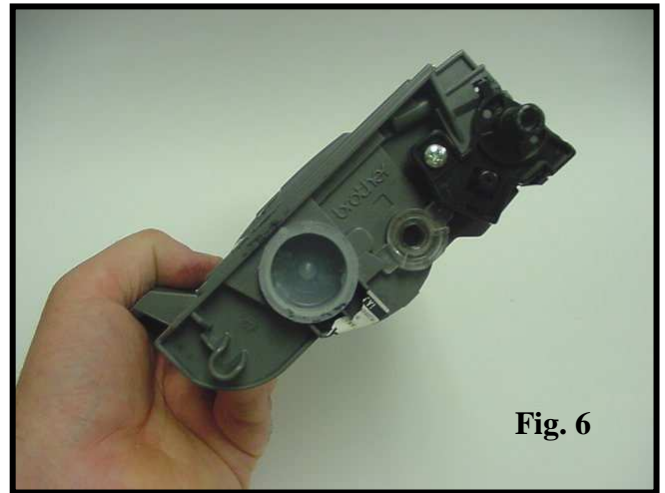

Fig. 6
6. Remove the hopper cap and clean the hopper thoroughly of all residual toner using compressed air (Fig. 6).